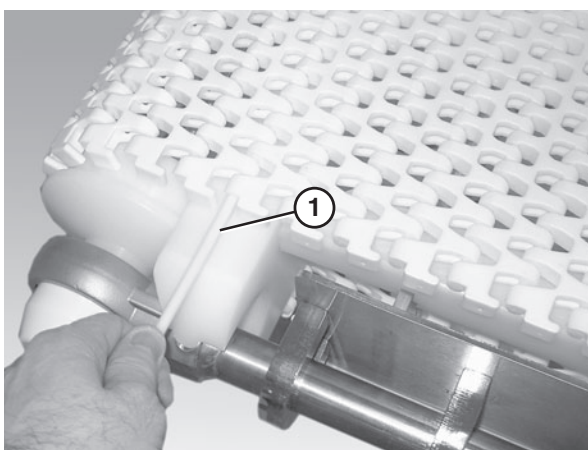

Figure 30
- Insert the belt rod (**Figure 30, item 1**).